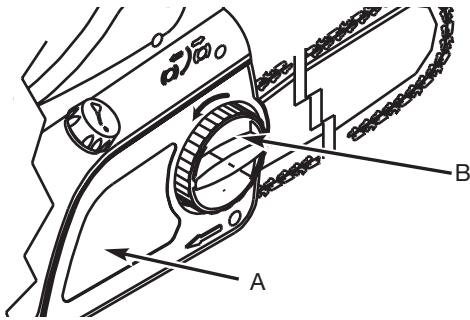

Fig. 17
2. To remove the side cover (A), turn the knob (B) counter-clockwise (Fig. 17).